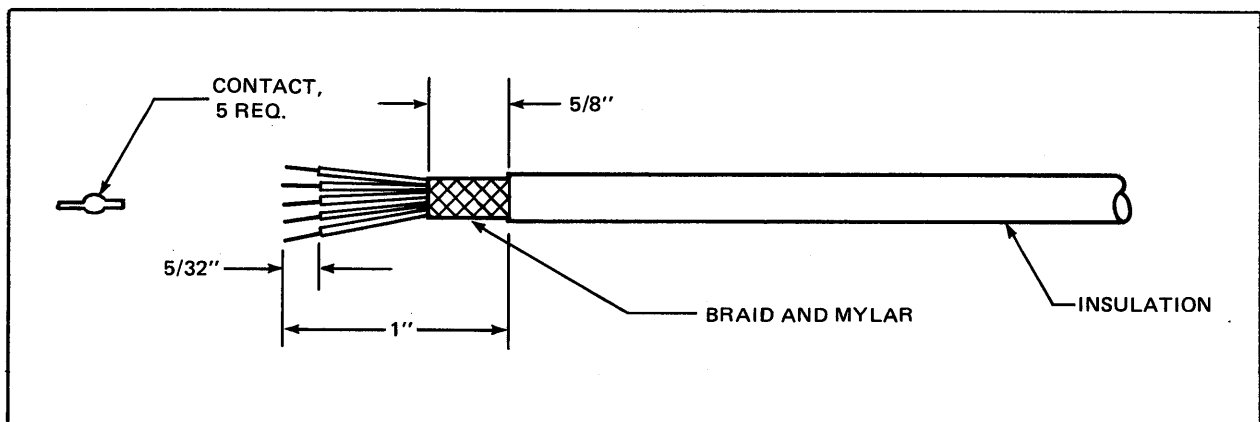

Figure D-15. Five-Wire Cable Prepared For SOLDERED RF Can
1. Prepare the cable as shown in Figure D-15.